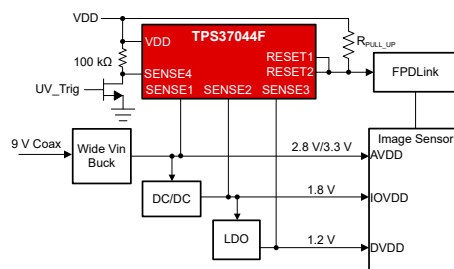

Figure 8-4. TPS37044F-Q1 Quad-Channel Monitoring With Manual Self-Test Option for Functional Safety
Figure 8-4 displays a self-test scheme where a manual self-test function can be implemented. Any SENSEx pin can be reserved and used to trigger a fault to be observed at the output, thus pre-checking the TPS3704-Q1 for fault detection. Because the TPS3704-Q1 is functional safety compliant, it helps elevate applications like the automotive ADAS camera achieve ISO 26262 requirements and automotive safety integrity levels. This example uses a TPS37044F-Q1, configured for separate undervoltage and overvoltage (UV/OV) outputs where the SENSE4 thresholds are set at 5.5V for OV and 2V for UV.
Figure 8-4 shows a self-test scheme where a manual self-test function can be implemented. SENSE4 has an overvoltage (OV) threshold that is set at 5.5V and the undervoltage (UV) threshold set at 2V. SENSE4 can be connected via a 100kΩ resistor to VDD. The self-test setup gives the added benefit of a built-in overvoltage detector for the rail powering the TPS37044F-Q1. From a functional safety perspective, a voltage supervisor cannot be considered reliable if the supervisor is operating outside its recommended operated limits.